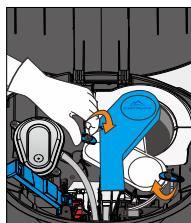

Figure 39
13. Rotate turn knobs to lock SmartFlo™ Water Cartridge in place (Figure 39)